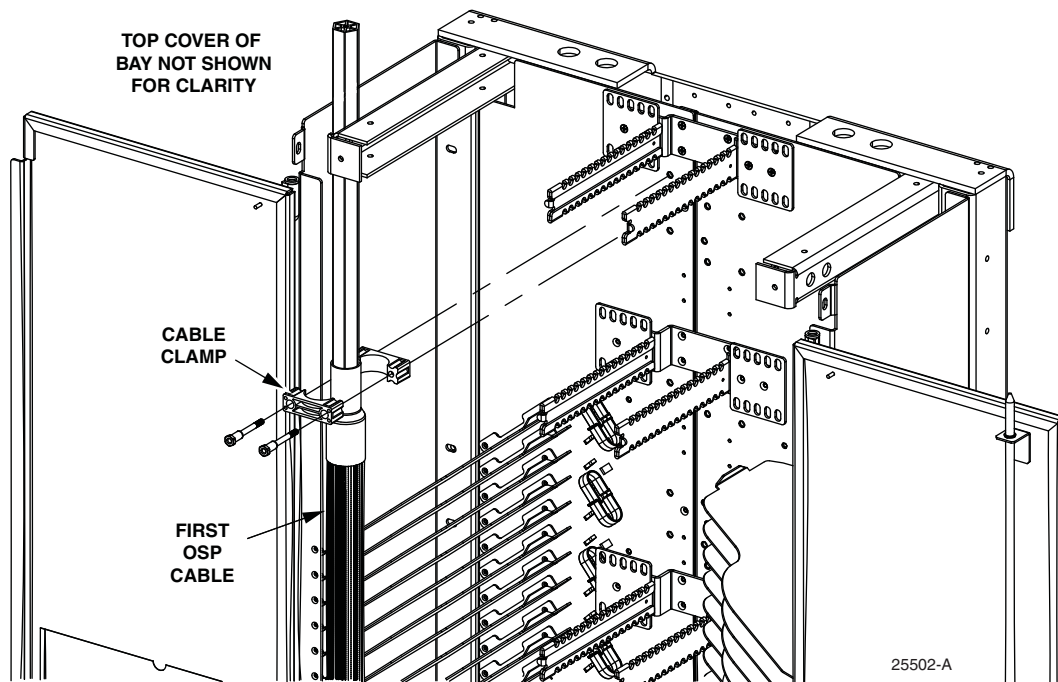

Figure 10. Installing the First OSP Cable
5. After breaking out one OSP cable, secure the cable to the bay as shown in Figure 10.